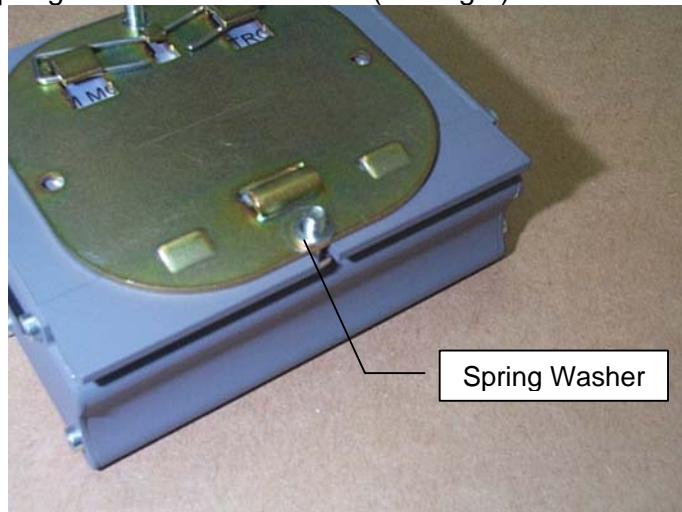

Fig.3
3) Place the spring washer into the screw (See fig.3).